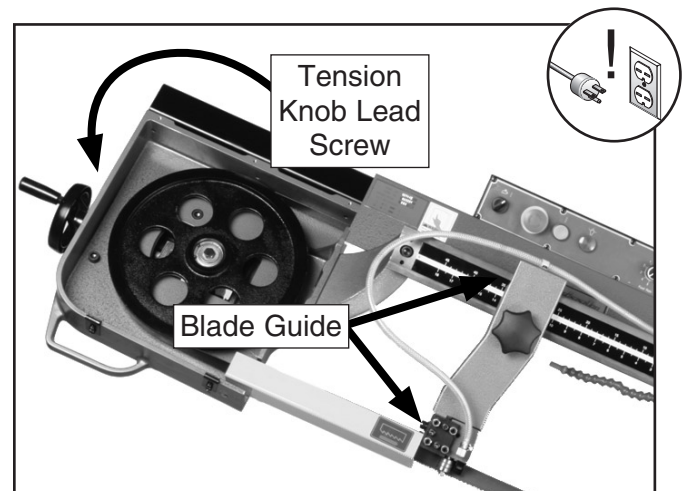

Figure 50. Typical main lubrication points.
- **Blade Tension Mechanism:** Apply a few drops of oil on the tension knob lead screw (see **Figure 50**).
- **Blade and Guides:** Drop a few drops of light machine oil on the blade and the blade guides daily, especially when cutting cast iron, as no cutting fluid is recommended (see **Figure 50**).